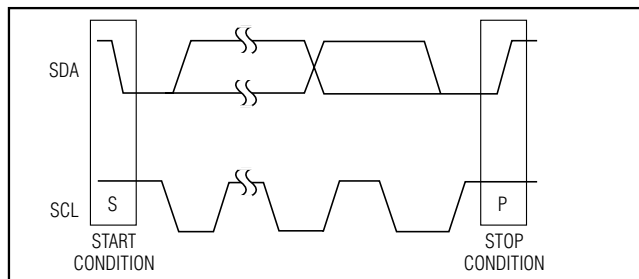
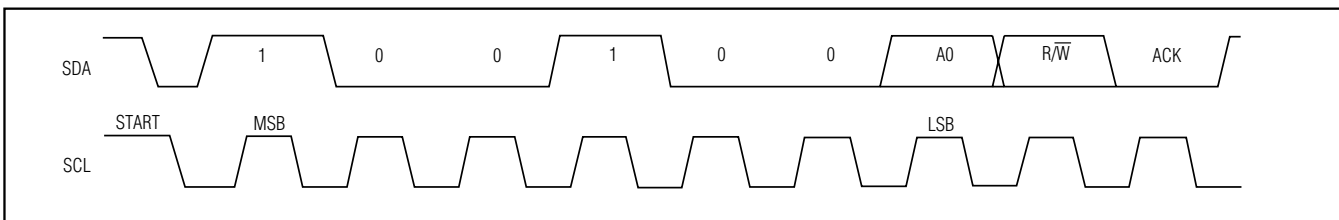

Figure 14. Start and Stop Conditions
Figure 15. Slave Address
Each transmission consists of a start condition (see Figure 14) sent by a master device, the MAX3301E/MAX3302E 7-bit slave address (determined by the state of ADD), plus an R/W bit (see Figure 15), a register address byte, one or more data bytes, and a stop condition (see Figure 14).
Both SCL and SDA assert high when the interface is not busy. A master device signals the beginning of a transmission with a start (S) condition by transitioning SDA from high to low while SCL is high. The master issues a stop (P) condition by transitioning SDA from low to high while SCL is high. The bus is then free for another transmission (see Figure 14).
A bus master initiates communication with a slave device by issuing a START condition followed by the 7-bit slave address (see Figure 15). When idle, the MAX3301E/MAX3302E wait for a START condition followed by its slave address. The LSB of the address word is the read/write (R/W) bit. R/W indicates whether the master is writing to or reading from the MAX3301E/MAX3302E ($R/\overline{W} = 0$ selects the write condition, $R/\overline{W} = 1$ selects the read condition). After receiving the proper address, the MAX3301E/MAX3302E issue an ACK.